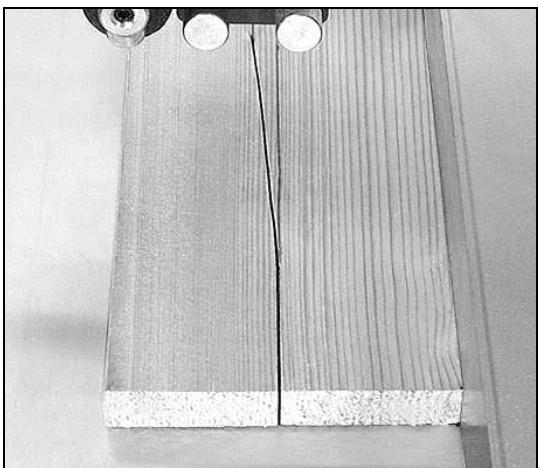

**Fig 17**
To adjust the cutting height release the winged nut (A, Fig 17) and move the upper blade guide and guard assembly (B).